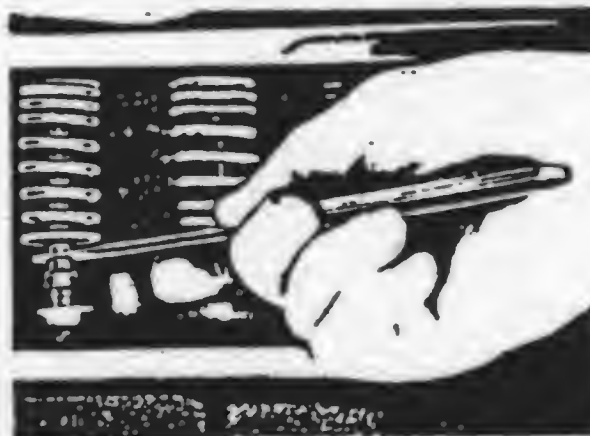

FIG. 17 VALVE TAPPETS AND SPRINGS
6. *Valve Tappets.* — Disconnect the tubes from the valve spring cover, remove the cover screws and the cover. Crank the engine slowly by means of the hand crank and note when the intake valve of No. 1 cylinder begins to open. Then turn the crank one full revolution further. This places the camshaft in the correct position for checking or readjusting both tappets of No. 1 cylinder. Check the clearances with a feeler gauge, (Fig. 17). The
up against the cylinder block, (Fig. 17). Then install the valves, each in its proper seat. Using a valve valves which are in closed position and insert the valve spring locks with a valve key inserting tool. If no key inserting tool is available, hold keys in place by sticking them to valve stem with grease. Crank engine until other valves are closed and install the remaining keys.
(2) Adjust the valve tappet to valve stem clearance to .014", (Fig. 17). Remove cloth or waste from valve chamber.
(3) Clean top of block and pistons of all foreign matter and install cylinder head gasket. Clean carbon from cylinder head and wipe off all foreign matter, then install over studs on cylinder block. Install oil filter bracket. Install cylinder head